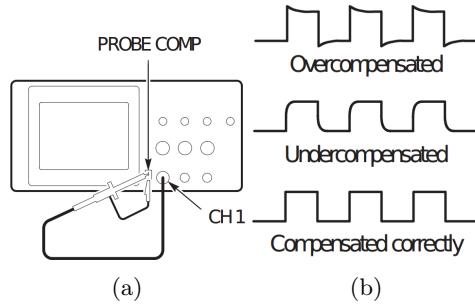

Figure 2.2: Testing the probe
- Plug the probe into *Channel 1* on the oscilloscope and push the *AUTOSET*² button. On the display you should see a square wave of approximately 5V peak-to-peak at 1KHz, as shown in Figure 2.2. This